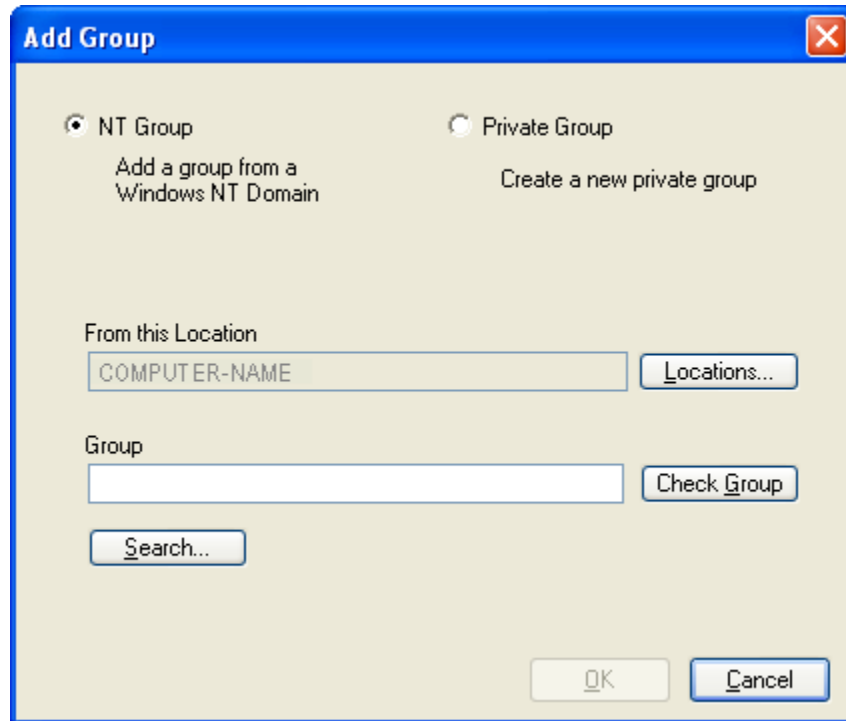

Figure 51 - Add Group Window (NT)
- The **Add Group** window (Figure 51) appears. The **NT Group** option button is selected by default. This will allow the addition of an NT group from a Windows NT Domain.
- The **Add Group** window (Figure 51) appears.